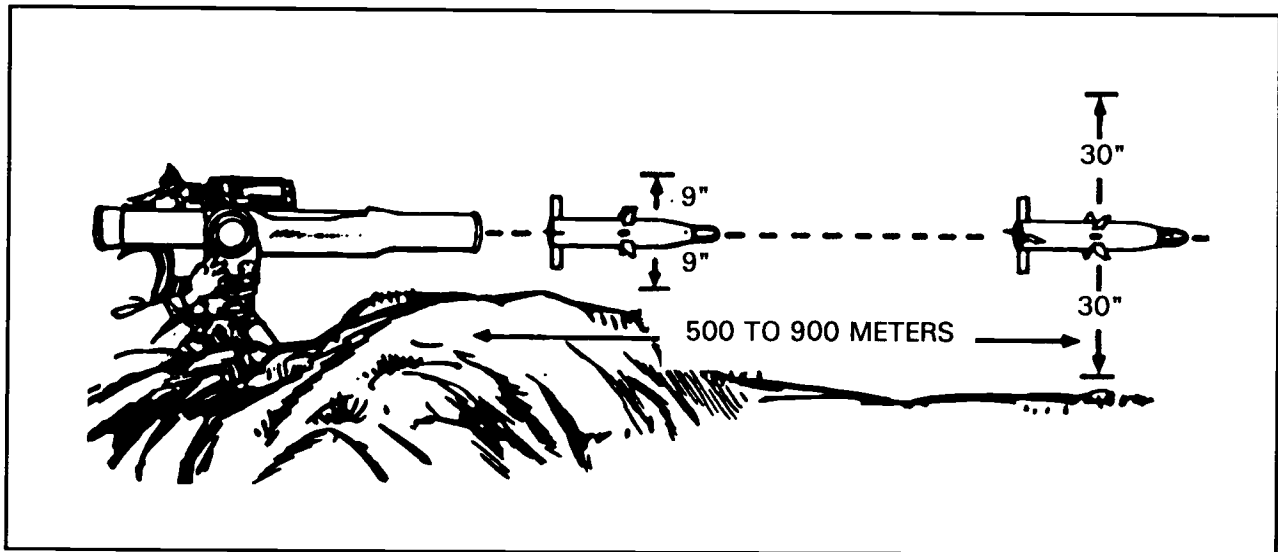

Figure 2-3. Clearance requirements.
f. Clearance Requirements. The TOW muzzle must have at least nine inches of clearance at the end of the launch tube so the wings and control surfaces of the missile will not be damaged when they extend after clearing the launch tube. The muzzle of the launch tube must extend beyond any enclosure, window sill, or aperture, and at least 30 inches of clearance must be between the line of sight and any obstruction from 500 to 900 meters downrange. A 30-inch line-of-sight clearance ensures a high probability the missile will not strike the ground on the way to the target (Figure 2-3, page 2-10).